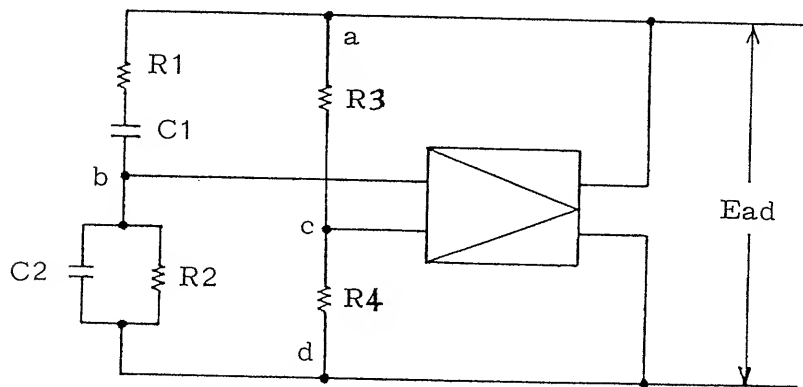

Fig. 2 Wien bridge oscillator circuit
Among low frequency oscillators, RC oscillators which employ R and C as frequency-determining elements are most common. Among RC oscillators, Wien bridge type is most popular. The Wien bridge has many advantages over other oscillation circuits. Its frequency is easily variable, and small distortion. The operating principle of the Wien bridge oscillator circuit is shown in Fig. 2.
Referring to Fig. 2, the phase of Ebc becomes the same with that of Ead when the below condition is satisfied.
It is very difficult for the circuit of Fig. 2 to satisfy constantly the condition of equation (4). Oscillation will not start if the condition of equation (4) is satisfied from the beginning. The conditions of oscillation are determined by equations (1) and (3), and they are not related with the oscillation amplitude. Therefore, the condition of equation (3) must be maintained until the oscillation builds up to the required amplitude. Then, the circuit must satisfy the condition of equation (4). To accomplish this requirement, the resistance of R3 or R4 must automatically vary in response to the oscillation amplitude. This is accomplished by using a thermistor as for R3.